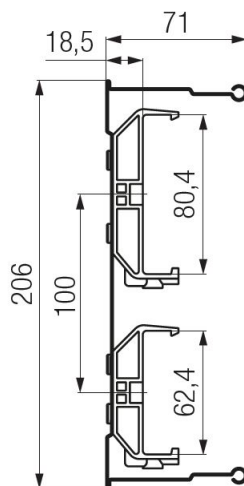
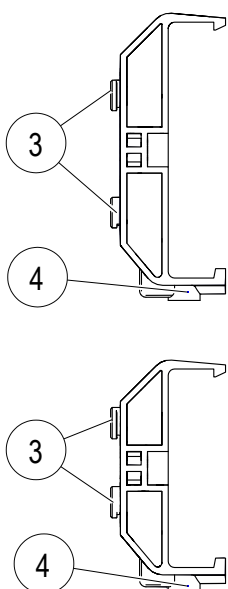
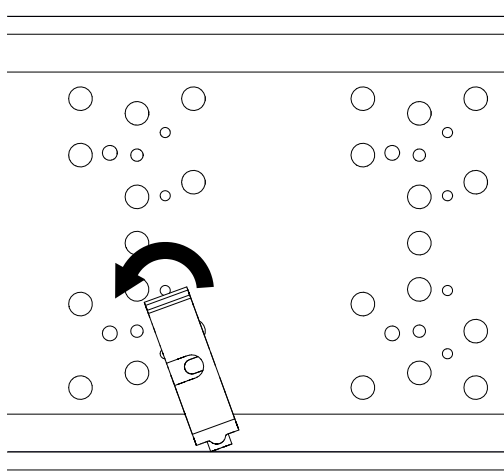
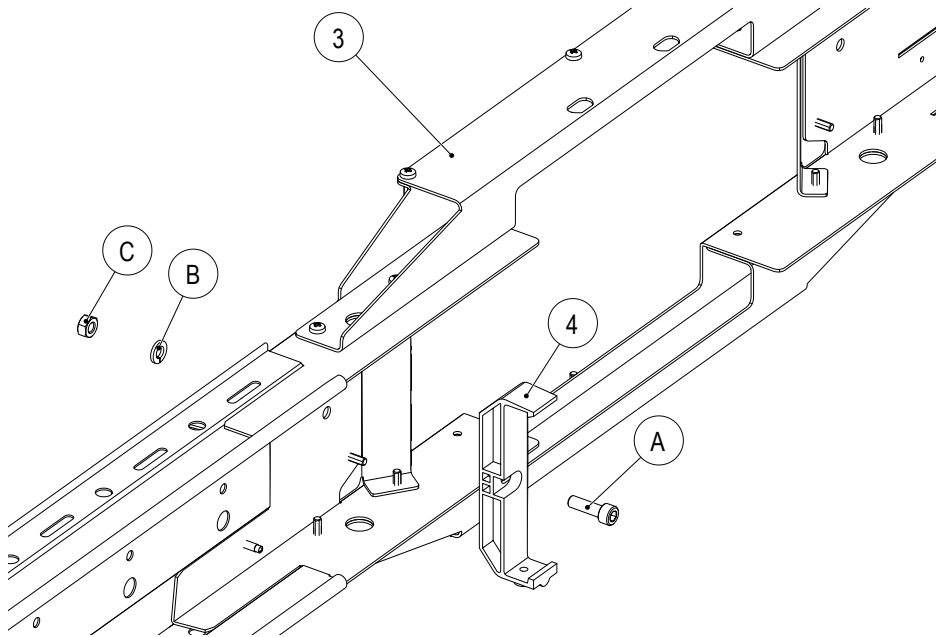

Fig. 58: Dimensions of 7-pole hanger clamp 0831 in ProShell 206
Fig. 59: Locking pin (4) and pin (3)
Fig. 60: Hook 3-pole hanger clamp onto the ProShell 206 Support Profile System
Fig. 63: Install anchor point (4) on fastening frame (3)
The special rows of holes in the ProShell 206 support profile rails allow the hanger clamps to be easily hung (see Fig. 58). For seven or eight poles, two different hanger clamps (e.g. 3-pole with 4-pole or 5-pole with 3-pole or 4-pole with 4-pole) are combined with one another (see Fig. 59 to Fig. 60).
1. Hook the locking pin (4) of the hanger clamp onto the lower frame of the ProShell support profile so that by screwing in the hanger clamp, the two pins (3) are sunk into the holes of the ProShell support profile (see Fig. 60 to Fig. 63). Install the 4-pole hanger clamp in the upper part of the ProShell support profile in the same way as the 3-pole hanger clamp